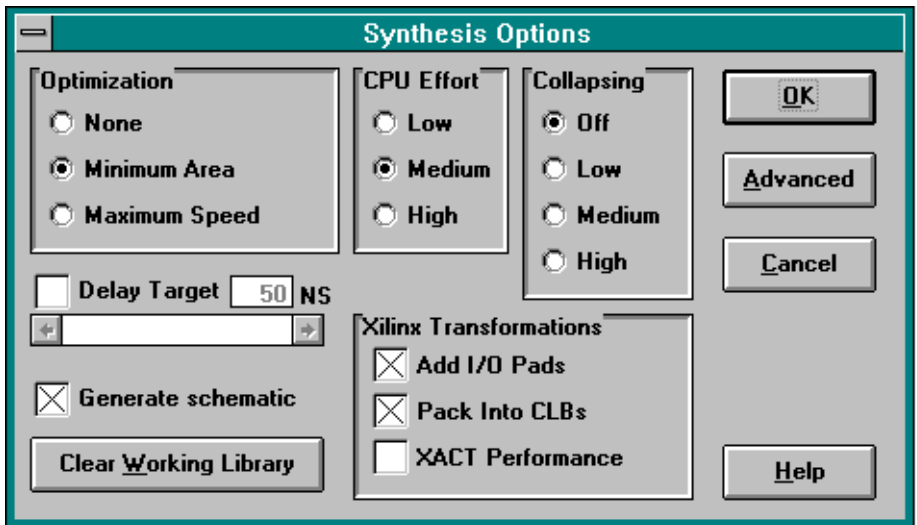

Figure 2-11 Synthesis Options Dialog Box
1. Select the **Xilinx** button in PROflow. The Xilinx Implementation dialog box appears as in Figure 2-11: